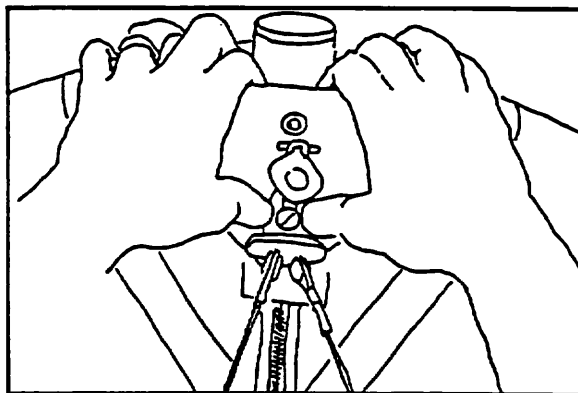

Figure 23
16) Attach the bottom front wires to the bottom of the nose, by pulling down on the nose of the glider while pressing the tang upwards over the shouldered bolt. (Remember, it is the pulling down of the glider's nose rather than the upward pressure on the tang that allows you to install the tang over the bolt. If you have difficulty with installing the tang, and no wires are twisted or thimbles cocked, it is probably because the glider is not sitting on level ground.) (Figure 23)